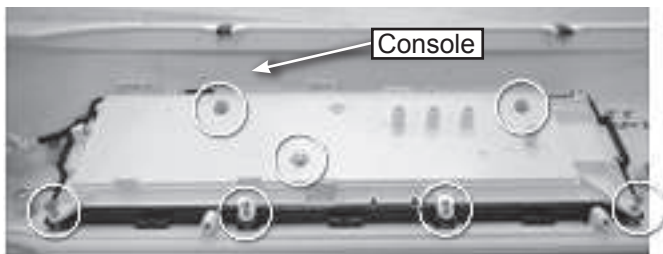

Figure 1
2. Remove the seven (7) screws circled in Figure 1 that secure the user interface to the console.